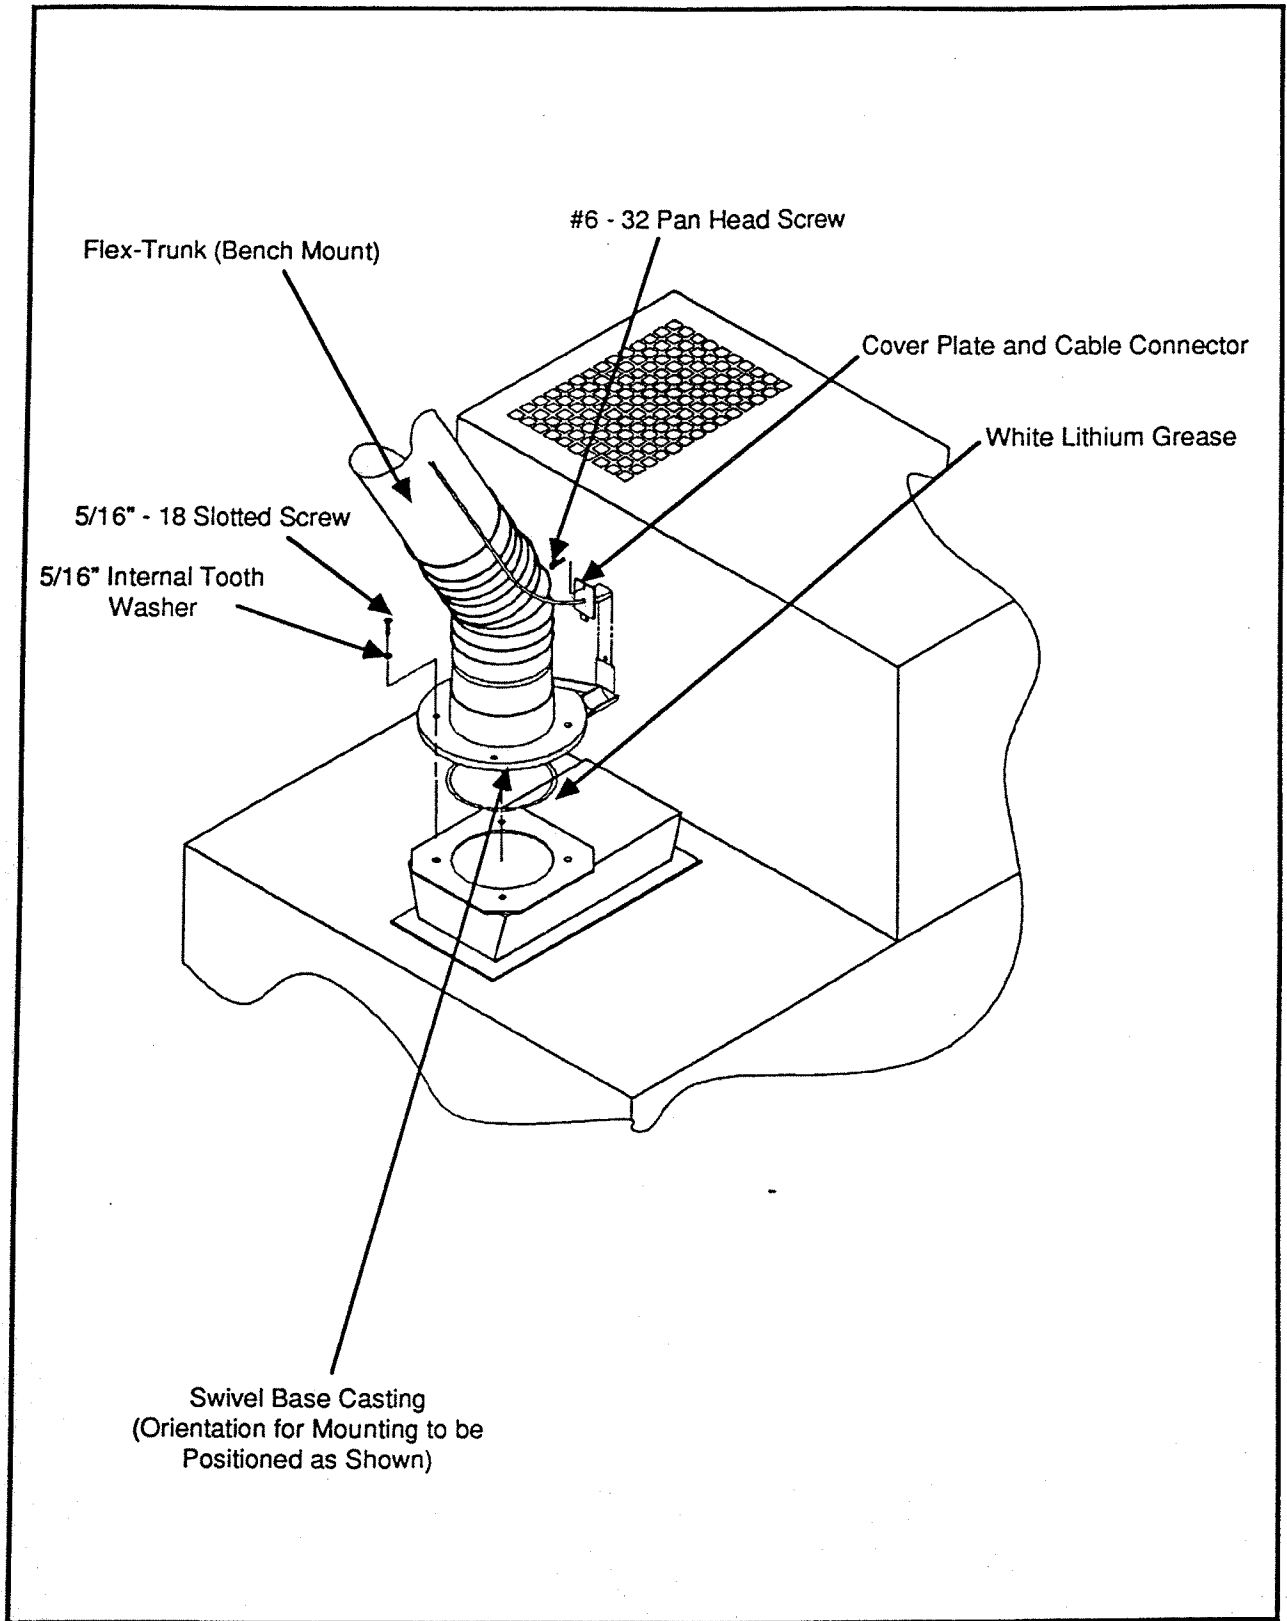

Figure 5
5. Install the collar mount back onto the Porta-Trunk by aligning the four (4) holes and fasten in place using the 5/16" - 18 x 1" lg. bolts, lock washers, and nuts that were removed in Step #2 (See Figures 5, 14 and 15).
2.5 Electrical Installation (See Figures 4, 5, 6 & 7 for single phase and Figures 5, 8 & 9 for three phase)
Once the Flex-Trunk is installed onto the cabinet, the next step is the electrical connection between the trunk and the cabinet electrical control box. Follow these steps and see Figure 5: